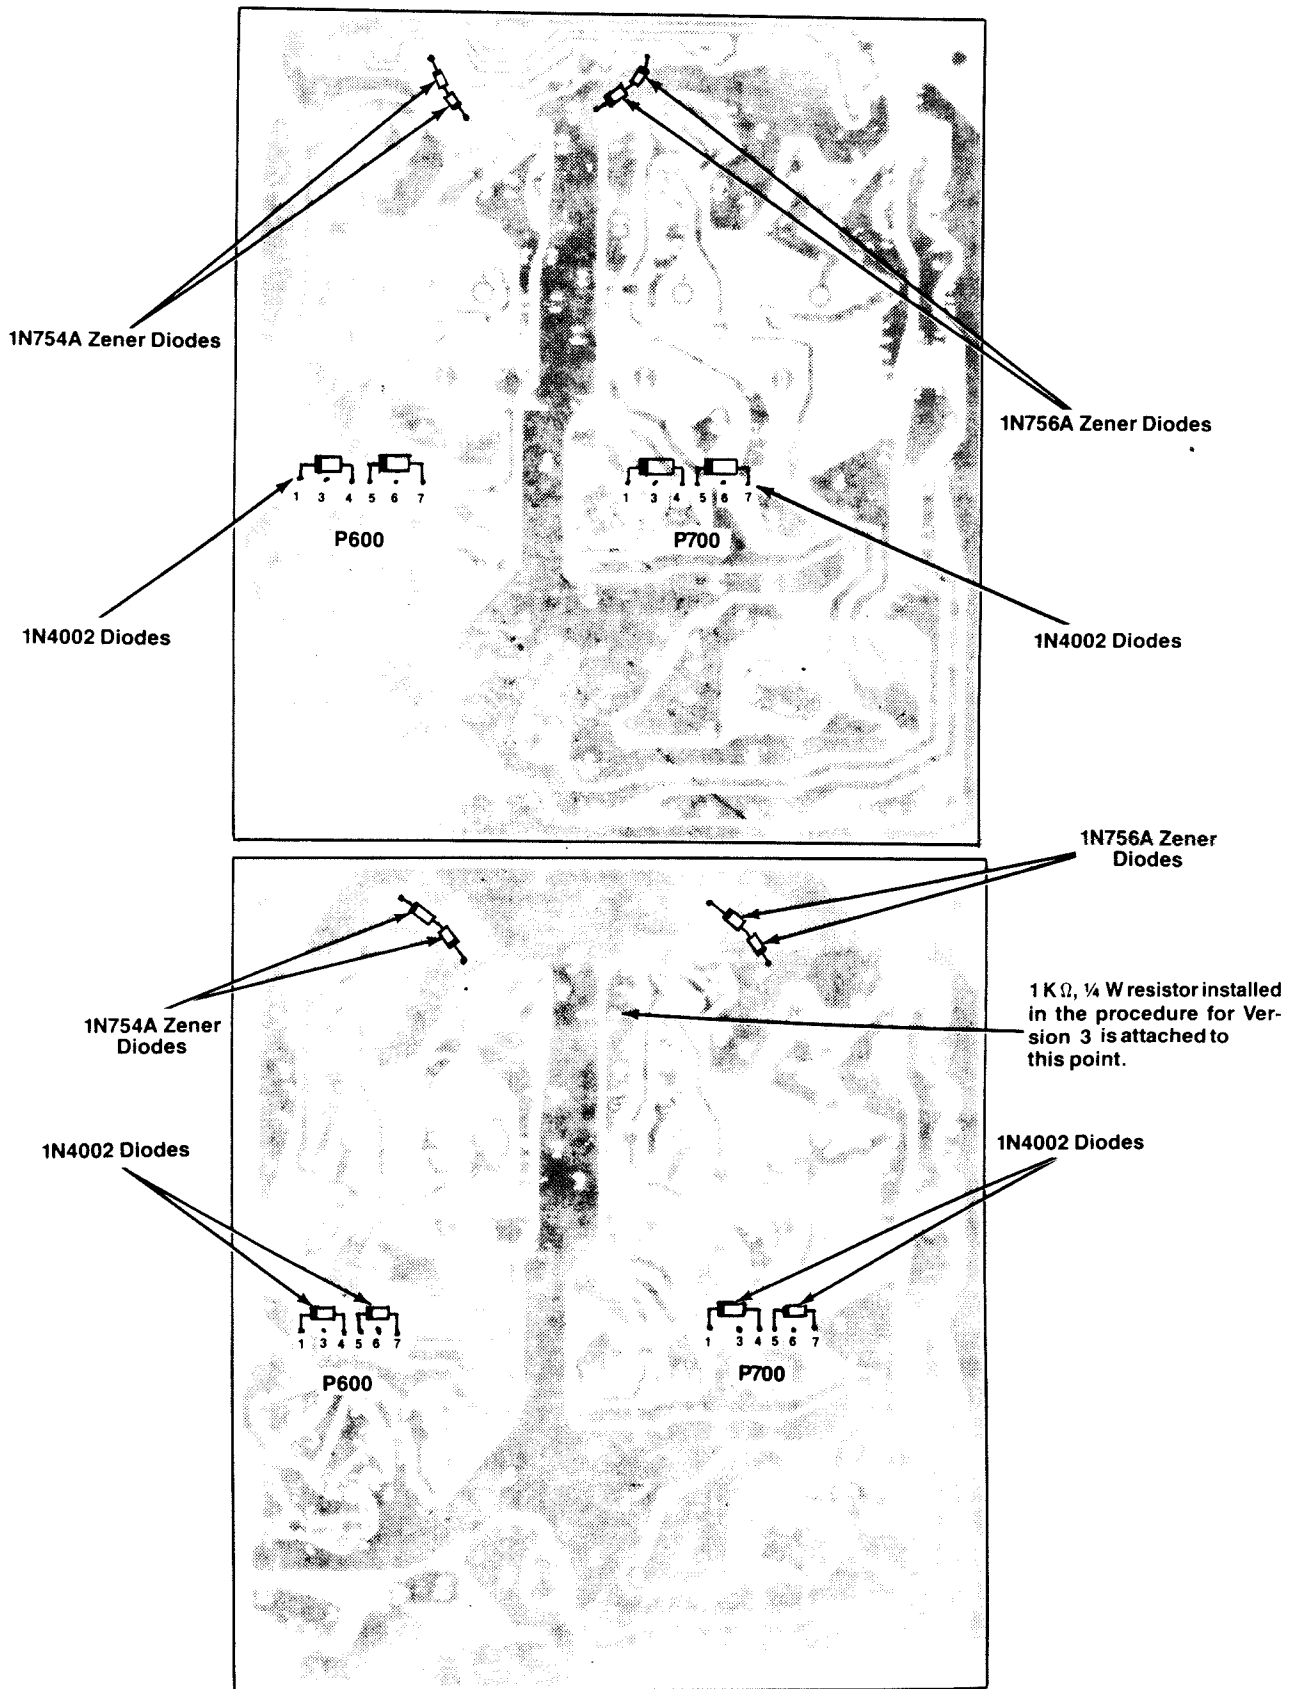

Figure 7 Modifying the Wells-Gardner Deflection PCB
4. Examine the soldered side of the Deflection PCB removed from the display and determine which of the two PCBs shown in Figure 7 matches your PCB.
6. Solder one cathode lead of the two type-1N754A Zener diodes (soldered together in step 2) to the yellow lead on the soldered side of the PCB as shown on the appropriate illustration in Figure 7.
7. Solder the other cathode lead of the two type-1N754A Zener diodes to ground as shown on the appropriate illustration in Figure 7.
9. Solder one cathode lead of the two type-1N756A Zener diodes (soldered together in step 3) to the orange lead on the soldered side of the PCB as shown on the appropriate illustration in Figure 7.
10. Solder the other cathode lead of the two type-1N756A Zener diodes to ground as shown on the appropriate illustration in Figure 7.
12. Solder the cathode lead of a type-1N4002 diode to pin 1 and the anode lead to pin 4 of connector P600 on the soldered side of the PCB as shown on the appropriate illustration in Figure 7.
13. Solder the cathode lead of a type-1N4002 diode to pin 5 and the anode lead to pin 7 of connector P600 on the soldered side of the PCB as shown on the appropriate illustration in Figure 7.
15. Solder the cathode lead of a type-1N4002 diode to pin 1 and the anode lead to pin 4 of connector P700 on the soldered side of the PCB as shown on the appropriate illustration in Figure 7.
16. Solder the cathode lead of a type-1N4002 diode to pin 5 and the anode lead to pin 7 of connector P700 on the soldered side of the PCB as shown on the appropriate illustration in Figure 7.
2. Locate the wire connected to resistor R1 (22 k Ω) and the collectors of transistors Q1 and Q3 (type 2N3904) on the Input Protection Circuit PCB and the point shown in Figure 7 on the Deflection PCB.